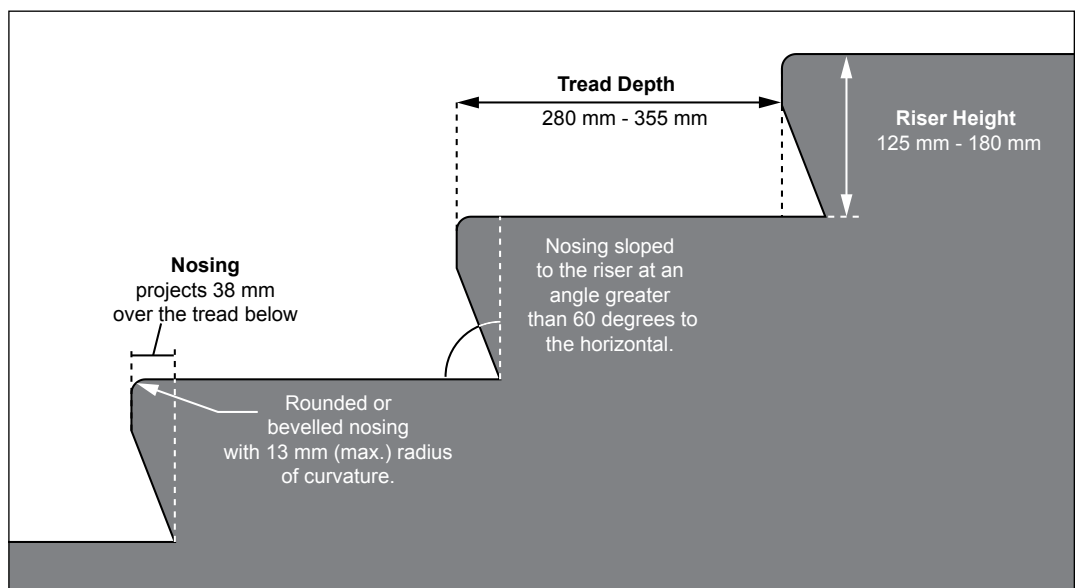

Figure 10: Stair Design Features - Section View
- a. riser height of 125 mm (minimum) to 180 mm (maximum) (**Figure 10**);
- b. tread depth of 280 mm (minimum) to 355 mm (maximum) (**Figure 10**);
- c. ensure leading edge is rounded or has a bevelled profile, with a radius of curvature of 13 mm or less (**Figure 10**); and